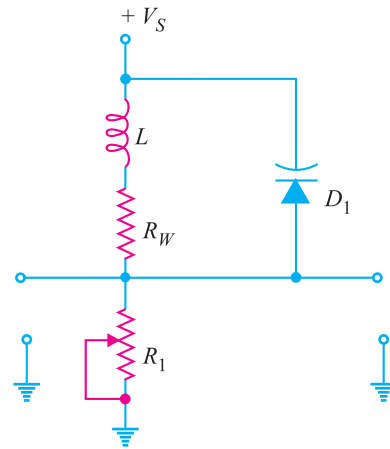

Fig. 7.23
We have discussed that we can increase or decrease the junction capacitance of varactor diode simply by changing the reverse bias on the diode. This makes a varactor diode ideal for use in circuits that require voltage-controlled tuning. Fig. 7.23 shows the use of varactor diode in a tuned circuit. Note that the capacitance of the varactor is in *parallel* with the inductor. The varactor and the inductor form a parallel  $LC$  circuit. *For normal operation, a varactor diode is always operated under reverse bias.* In fact, this condition is met in the circuit shown in Fig. 7.23. The resistance  $R_W$  in the circuit is the *winding resistance* of the inductor. This winding resistance is in series with the potentiometer  $R_1$ . Thus  $R_1$  and  $R_W$  form a voltage divider that is used to determine the amount of reverse bias across the varactor diode  $D_1$  and therefore its capacitance. By adjusting the setting of  $R_1$ , we can vary the diode capacitance. This, in turn, varies the resonant frequency of the  $LC$  circuit. The resonant frequency  $f_r$  of the  $LC$  circuit is given by;
**Example 7.5.** The  $LC$  tank circuit shown in Fig. 7.23 has a 1 mH inductor. The varactor has capacitance of 100 pF when reverse bias is 5V d.c. Determine the resonant frequency of the circuit for this reverse bias.